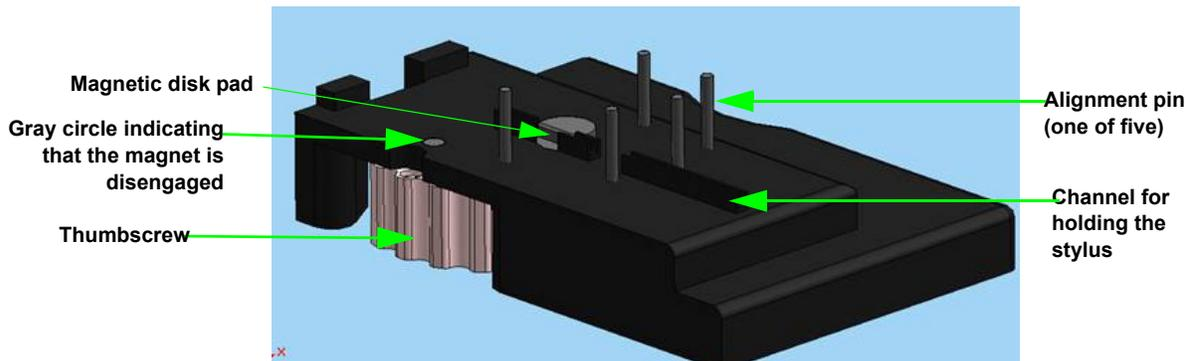

Figure 3-18: Stylus Exchange Tool with Its Magnet Disengaged
- 2 Locate the black plastic stylus exchange tool (see Figure 3-18) and place it near the stylus case.
- 7 Rotate the thumbscrew on the stylus exchange tool so that a gray circle (NOT a green one) is visible and the magnet is NOT engaged (see Figure 3-18).
- 10 Rotate the thumbscrew on the left side of the stylus exchange tool so that a green circle becomes visible and the magnet is engaged. The magnet now pulls the stylus into the channel on the exchange tool (see Figure 3-18). Lower the exchange tool containing the stylus from the bottom of the sensor head and take it to the protective case in which the stylus was shipped (see Figure 3-15).